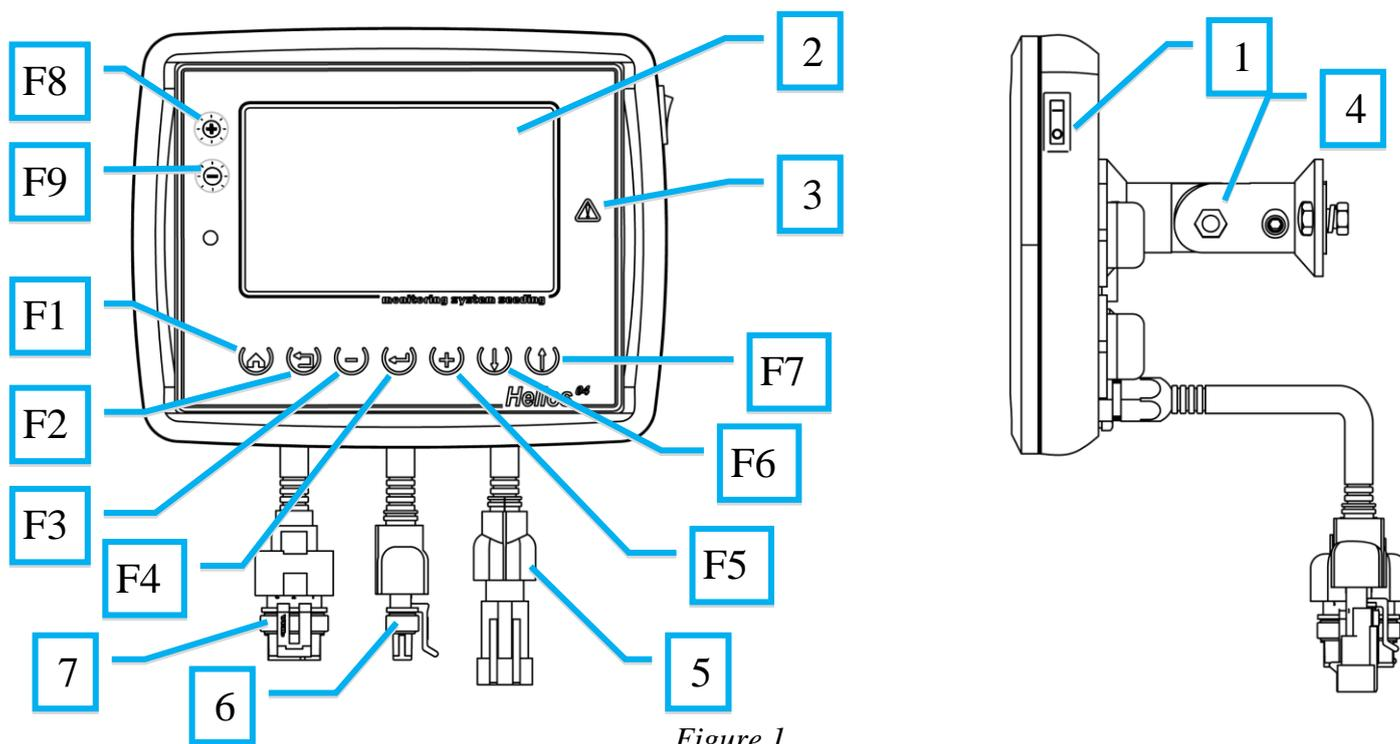

Figure 1
2.1. Appearance and controls of control panel are shown in Figure 1.
Table 1 describes the control panel buttons, their graphical symbols, functions and short description. Button location is shown in Figure 1.